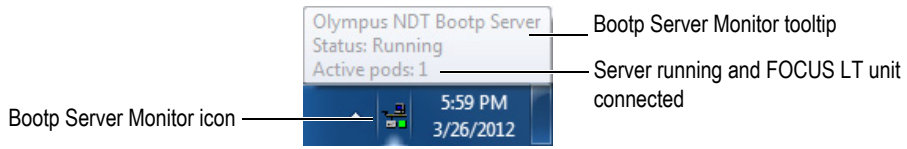

Figure 1-15 The Bootp Server icon when ready for operation
6. On the computer, bring the pointer over the Bootp Server Monitor icon () in the Navigation Area of the Windows taskbar. A tooltip appears (see Figure 1-15 on page 36).